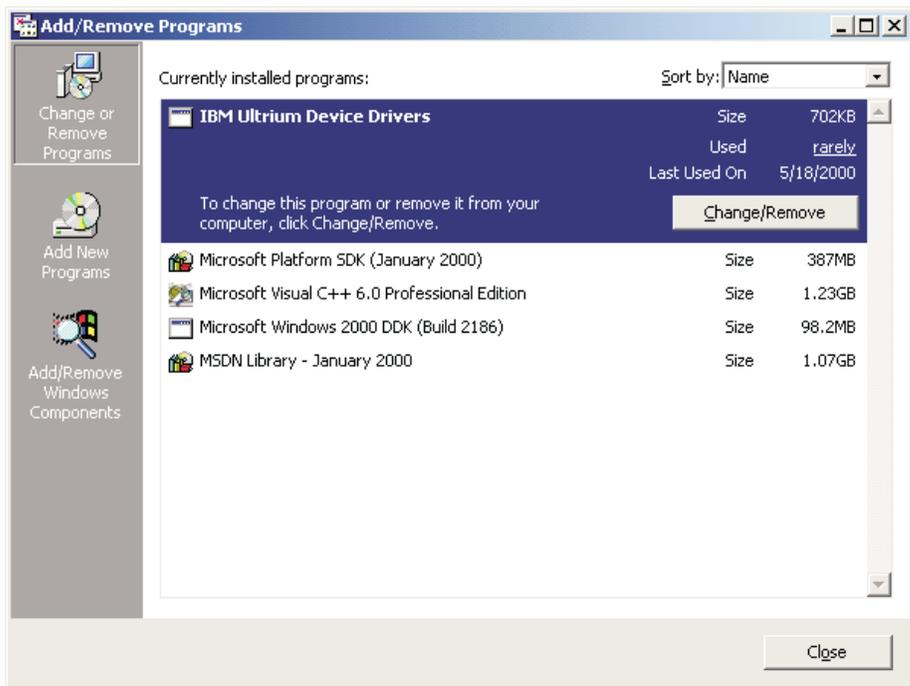

Figure 43. Ultrium Device Drivers Menu
8. Select **IBM Ultrium Device Drivers**, then click **Change/Remove**. See Figure 43.